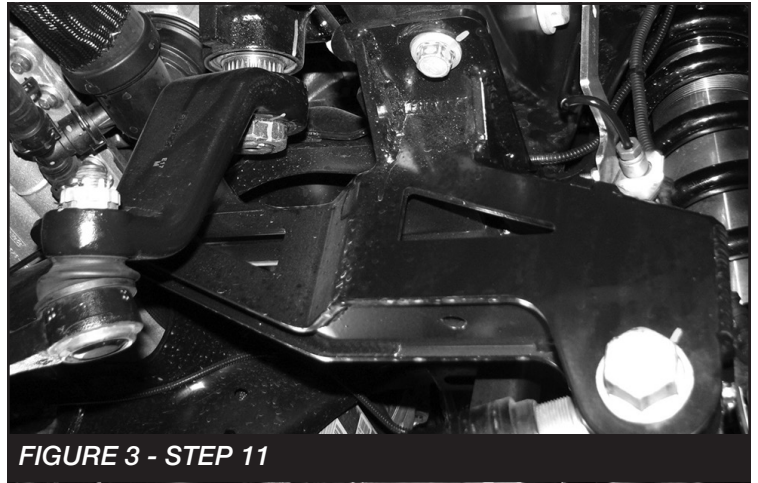

FIGURE 3 - STEP 11
11. Locate FT30767 (Track Bar Bracket). Attach to the frame using the original hardware in the same position. Torque bolts to 120 ft-lbs. **SEE FIGURES 3**